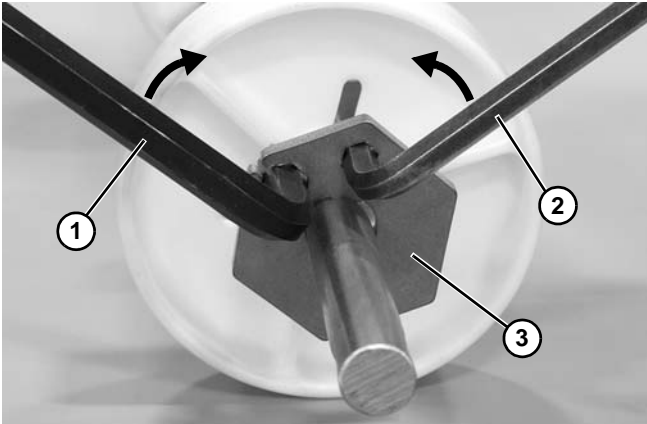

Figure 87
5. Remove puck (Figure 87, item 1) from the shaft.